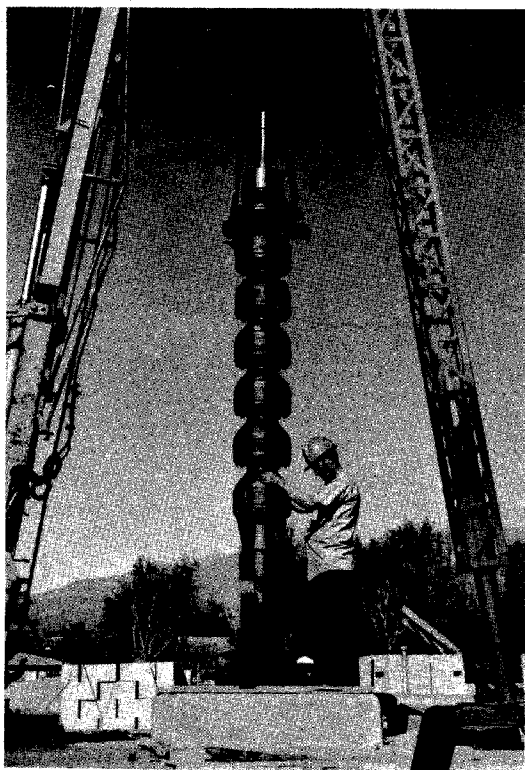
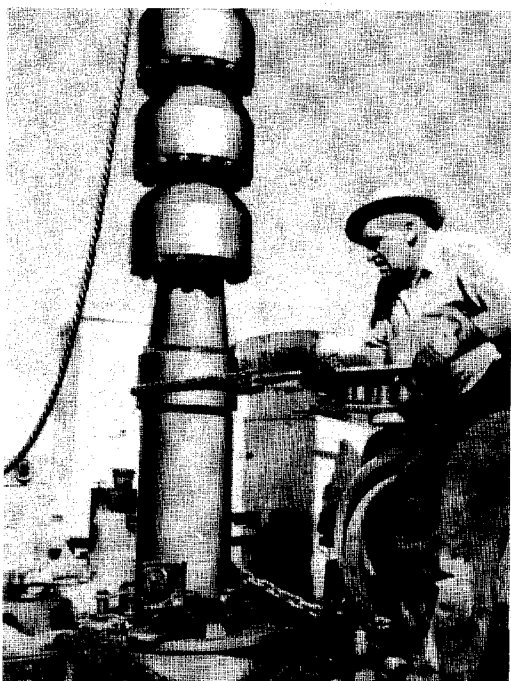

Fig. 7-3. Bowl Unit Positioned Over Suction Pipe.
Fig. 7-4. Installing The Bowl Unit On The Suction Pipe.
clamp and the hoist hook as before. When hoisting the bowl unit, the lower end should be guided by a dragline (sand line) which is pulled by the hoist. The dragline may be passed through a pulley (traveling block) hooked onto a sling which is wrapped around the bowl unit. (A similar dragline installation is shown in Fig. 7-6 applied to a column section. If a power-operated dragline is not available, the lower end must be guided manually to prevent dragging and possible damage. Hoist the bowl unit directly over the top of the suction pipe. (See Fig. 7-3) Clean the threads at the upper end of the suction pipe and lubricate them with thread compound or engine oil. Carefully lower the bowl unit until the threads can be engaged by hand. Use chain tongs as shown in Fig. 7-4 to complete the joint.
1. Securely fasten an elevator clamp to the bowl unit just below the column coupling. Attach a sling to the elevator clamp and pass the looped end over the hoist hook. (See Fig. 7-3.) The lower end of the suction pipe should be guided by a dragline (sand